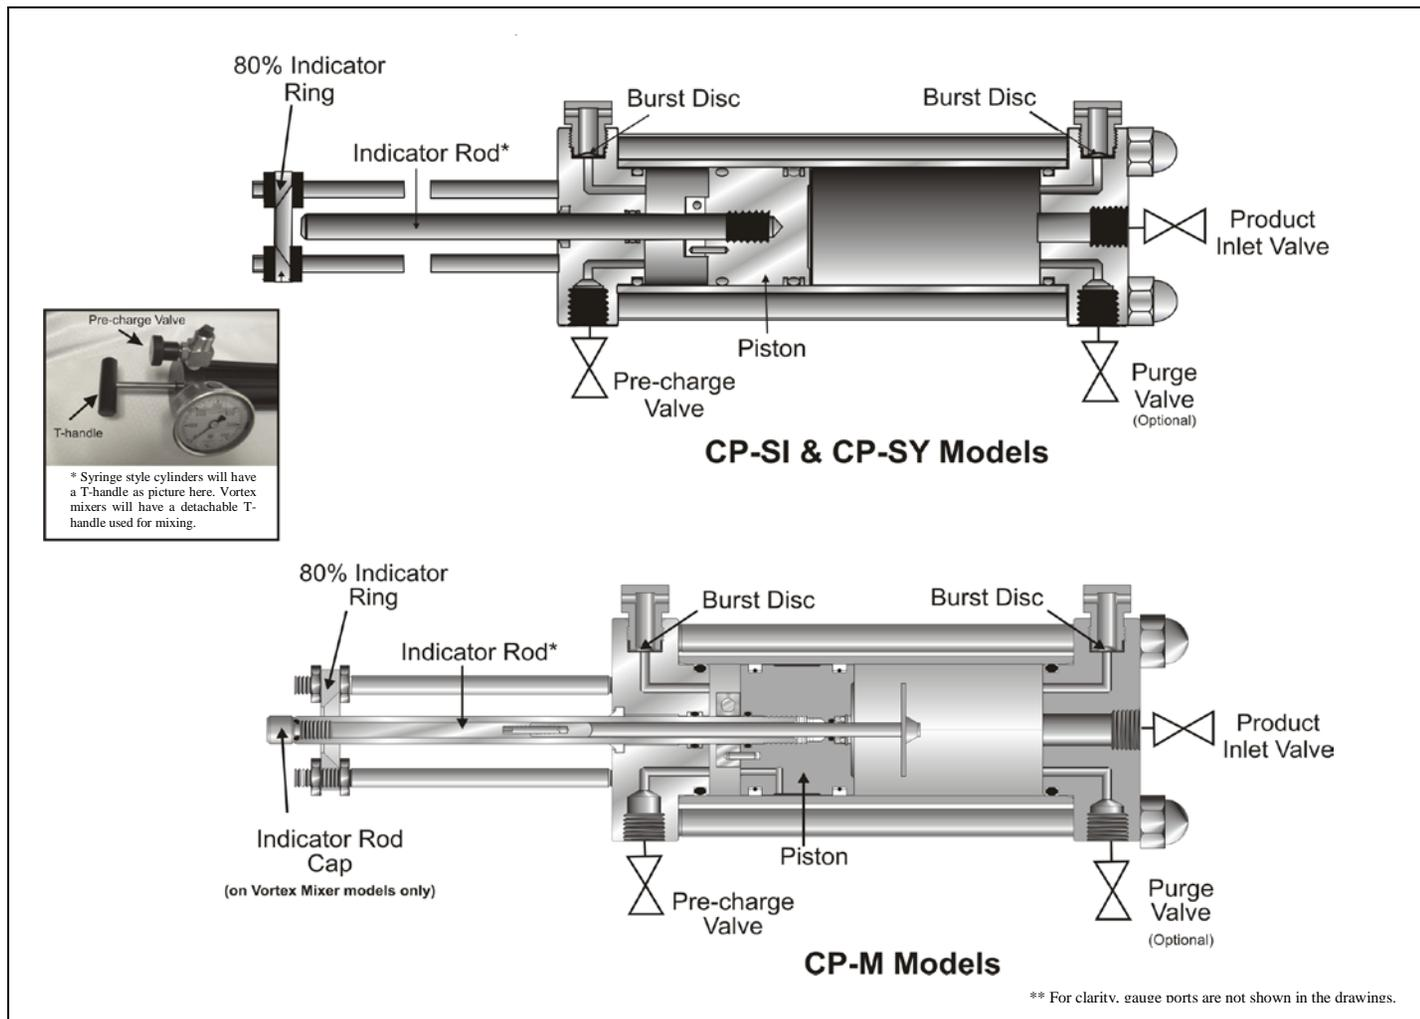

Figure 1
- a) Use small diameter stainless steel tubing to connect the pre-charge valve (see Figure 1) to an available pipeline valve.
- 2.4.3 **Slowly** open the product inlet valve (see Figure 1) on the product end cap. The piston will not yet move because pre-charge pressure is above pipeline pressure.